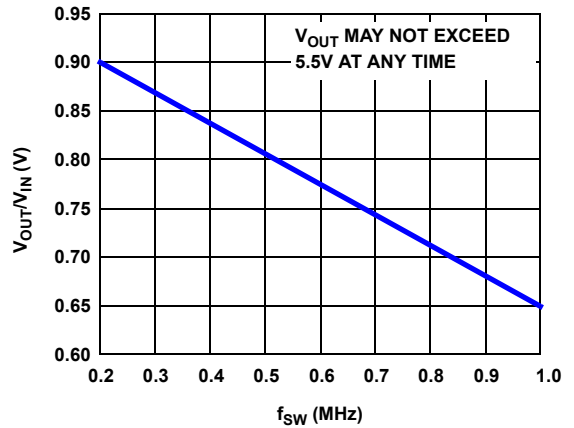

FIGURE 8. MAXIMUM CONVERSION RATIO,  $T_J \leq +125^\circ\text{C}$
10. Refer to Safe Operating Area in Figure 8 and thermal design guidelines in AN2010.
12. Percentage of Full Scale (FS) with temperature compensation applied.